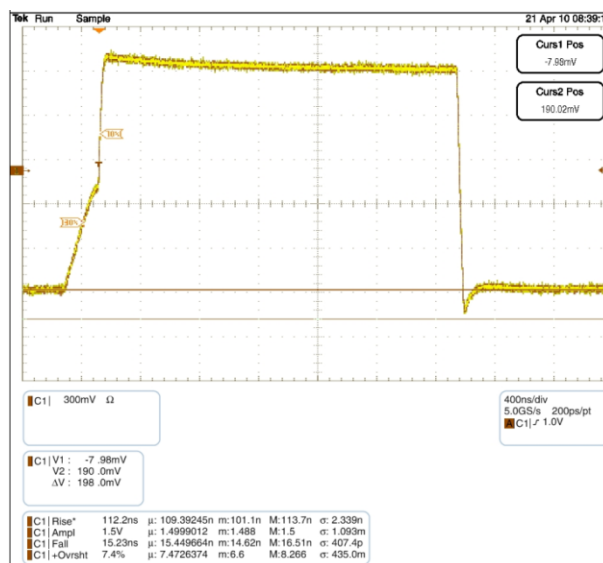

Figure 5. FXMA2102 Waveform C: 600 pF, R_{PU}: 2.2 K
resistive short between both ports until either of the port's V_{CC}/2 thresholds are reached. After the RC time constant has reached the V_{CC}/2 threshold of either port, the port's edge detector triggers both dynamic drivers to drive their respective ports in the LOW-to-HIGH (LH) direction, accelerating the rising edge. The resulting rise time resembles the scope shot in Figure 5. Effectively, two distinct slew rates appear in rise time. The first slew rate (slower) is the RC time constant of the bus. The second slew rate (much faster) is the dynamic driver accelerating the edge.
The FXMA2102 dynamic drivers have enough current sourcing capability to drive a 400 pF capacitive bus. This is beneficial for instances when an I²C buffer / repeater is required. The I²C specification stipulates a maximum bus capacitance of 400 pF. If an I²C segment exceeds 400 pF, an I²C buffer / repeater is required to split the segment into two segments, each of which is less than 400 pF. Figure 5 is a scope shot of an FXMA2102 driving a lumped load of 600 pF. Notice the (30% - 70%) rise time is only 112 ns ($R_{PU} = 2.2\text{ K}$). This is well below the maximum edge rate of 300 ns. Not only does the FXMA2102 drive 400 pF, but it also provides excellent headroom below the I²C specification maximum edge rate of 300 ns.